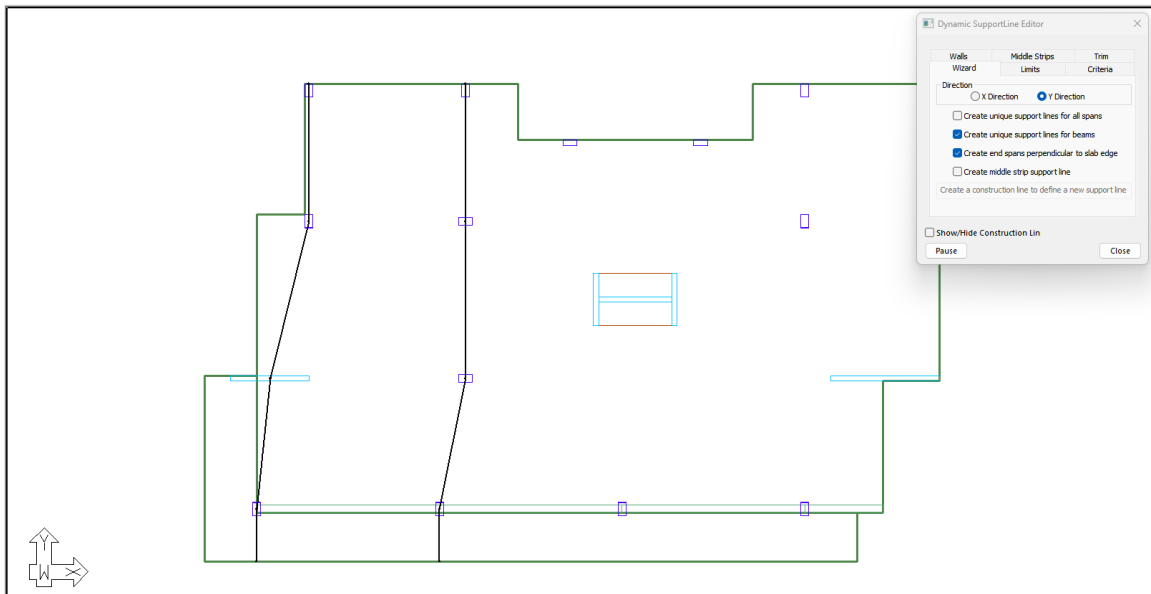

FIGURE 9-30
- Create the next support line in the same fashion as you created the previous support line. When finished the model will look like **FIGURE 9-30**.